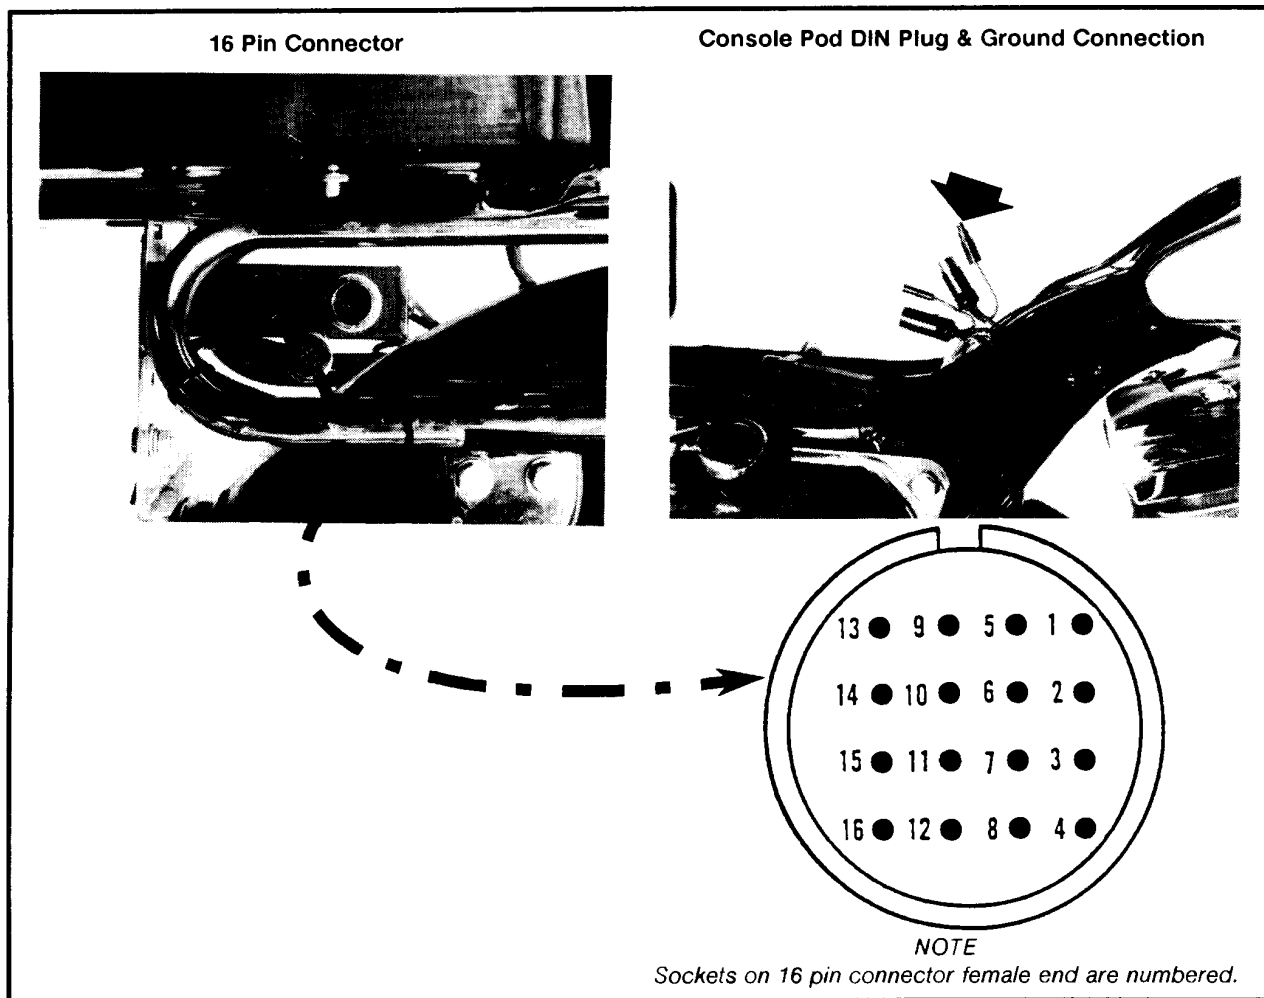

Figure 1. 16 Pin Connector and Console Pod DIN Plug and Ground Connection
- See Figure 1. The sockets in the 16 pin connector are too small for a probe, so insert a paper clip in the sockets and touch the paper clip with the probe. Be sure to remove any rough edges on the paper clip.